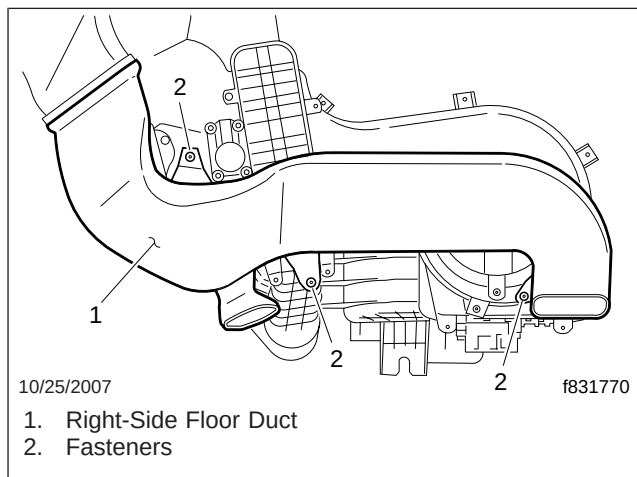

Fig. 8, Right-Side Floor Duct Installation
15. Remove the right side floor duct. See Fig. 8.